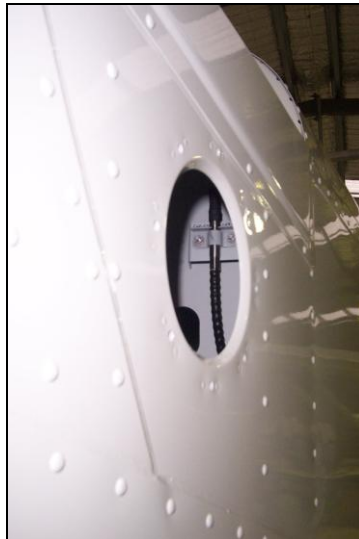

Figure 1
- 1.1. Remove round access panel on RHS tail cone skin (refer to figure 1).